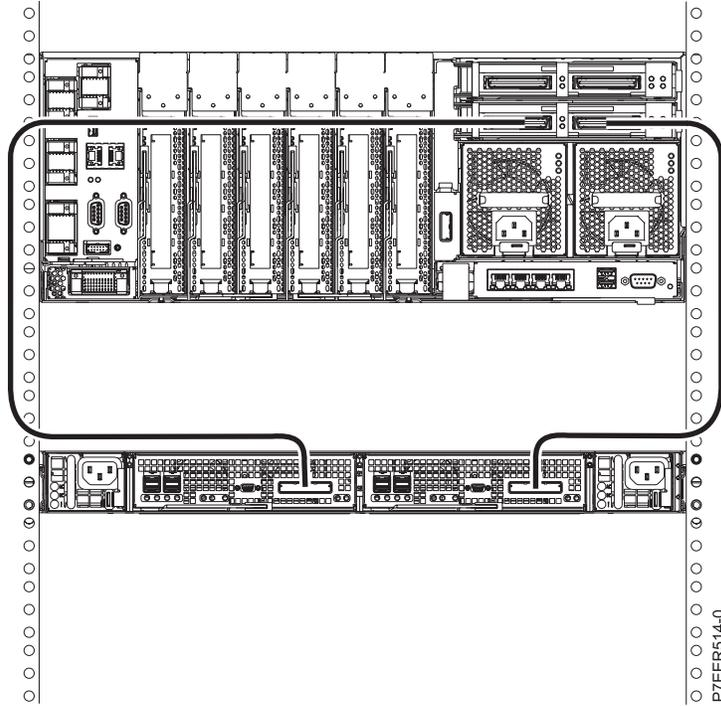

Figure 30. One ED/R1 PCIe storage enclosure connected to a single 17M/MD or 79M/HD system by using one FC 1914 PCIe2 GX++ adapter and two PCIe cables
Figure 30 on page 26 shows one ED/R1 PCIe storage enclosure connected to a single 17M/MD or 79M/HD system by using one feature code (FC) 1914 PCIe2 GX++ adapter and two PCIe cables.